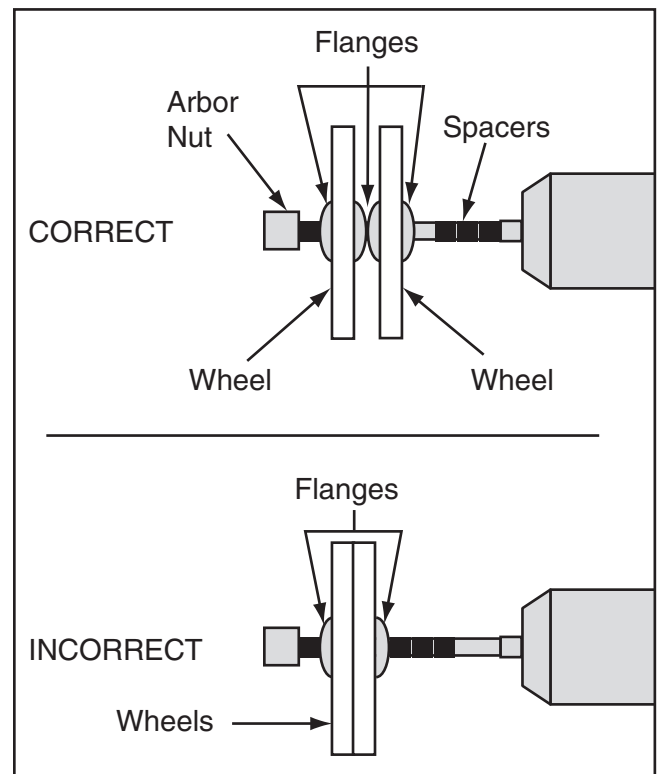

Figure 13. Multiple buffing wheel installation order.
4. Sandwich each buffing wheel between a pair of wheel flanges (sold separately), as shown in **Figure 13**.